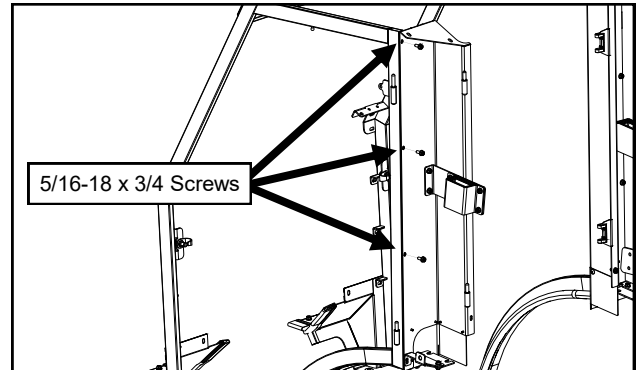

Fig. 6.2 (Rear Leg to Side Frame Fasteners)
6.2 Install the left side rear leg to the back of the side frame using the (3) upper most holes as shown in Figure 6.2.